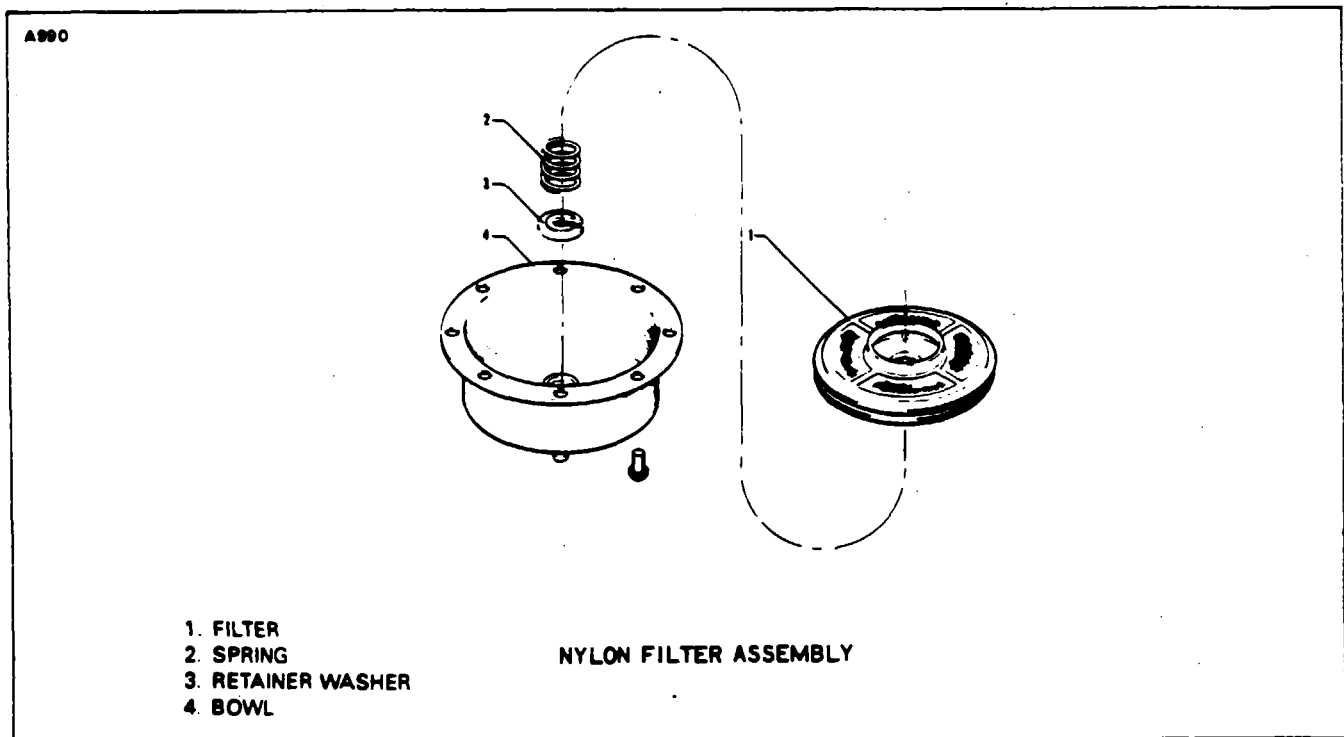

Figure 28-5. Fuel Filter
3. Remove filter disc assembly from center stem by compressing filter retainer spring and removing filter retainer washer. (Refer to Figure 28-5.)